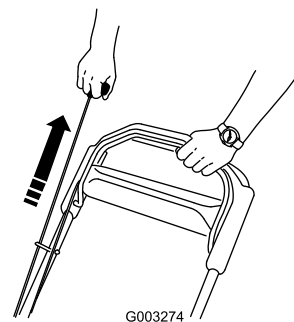

Figure 13
2. Pull the recoil start handle (Figure 13).